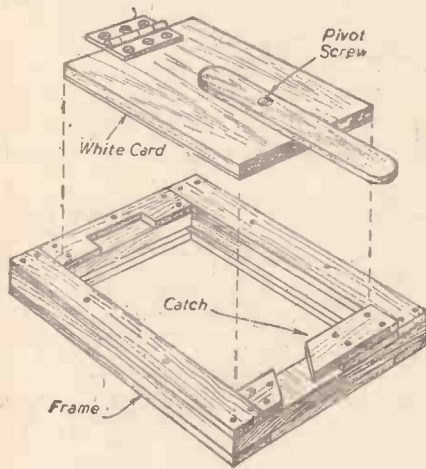

Fig. 9.—How the print-holder parts are assembled together.
to the frame; it is cut from $\frac{1}{4}$ in. wood. Pieces Q are cut from $\frac{1}{4}$ in. wood and form the "lip" to the centre piece (O). Pieces R go on the opposite side of piece O to deepen the rebate. Piece T is a lug for the snib (S) pivoted on the back, P, the latter being cut from $\frac{3}{16}$ in. plywood and faced on one side with white card, as shown in the constructional view, Fig. 9. The snib and lug are cut from $\frac{1}{4}$ in. plywood.